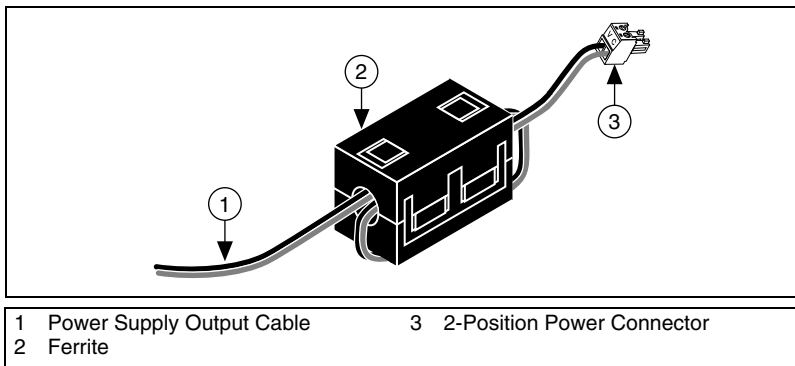

**Figure 3.** Connecting the 2-Position Power Connector to the Power Supply
- a. Reconnect the wire that was connected to the V position on the 4-position power connector to the V position on the 2-position isolated outputs power connector, shown in Figure 3.
- b. Reconnect the wire that was connected to the C position on the 4-position power connector to the C position on the 2-position isolated outputs power connector, shown in Figure 3.